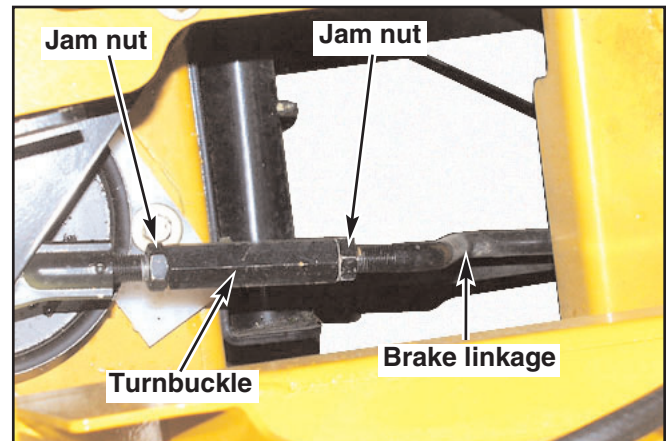

Figure 11-28
7. Loosen the brake linkage jam nuts. Fig. 11-28